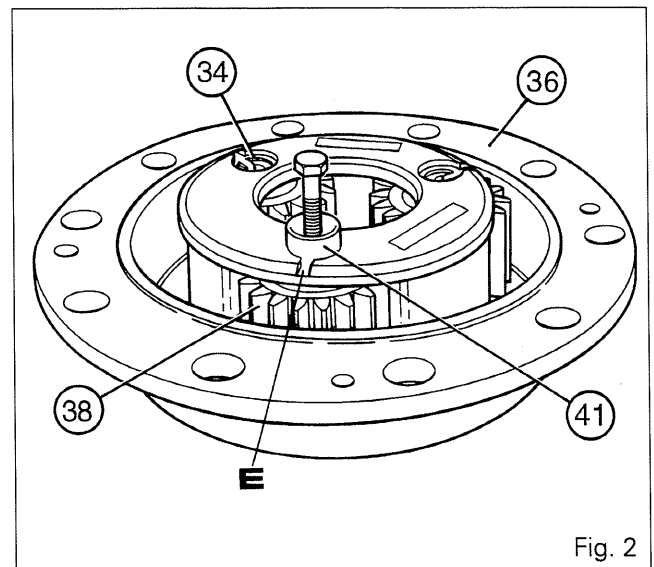

Fig. 2
#### Disassembly of planetary carrier (Fig. 2)
13. In each planetary gear (38), place the needles and the bushes coated with bearing grease.
14. Once prepared, install the planetary gears in the planetary carrier (36).
15. Centre the planetary gears and the bushes. Position and insert the planetary gear pins (41), with the orifice oriented towards the notches "E" in the planetary carrier as shown on Fig. 2. Fit the circlips (34).